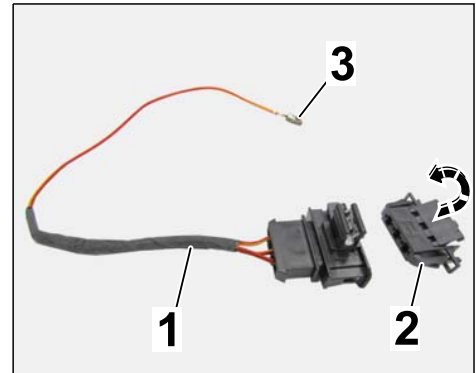

Figure 30
- 2.6.1 Disconnect plug connection (3-pin) of adapter cable and release/open plug socket (3-pin) (\Rightarrow *Figure 30*).